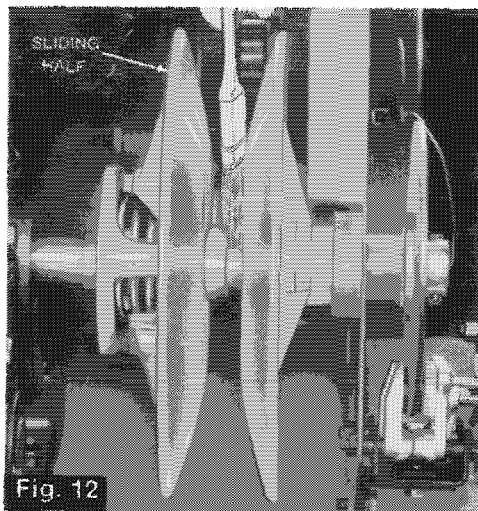

Fig. 12
2. Apply light coating of low-temp grease on the shaft. Activate the sliding half several times to distribute grease over full length of shaft. (See Fig. 12). Be careful that grease does not get unto inner halves of the pulley.